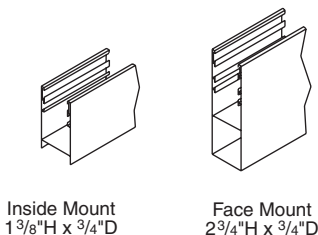

Figure 8
- ⑥ Install sill channel between side channels using appropriate fasteners (see Fig. 8). On some large LightBlocs, the sill channel is replaced by an angle. *NOTE: Be sure of a centered and snug fit between side channels.*